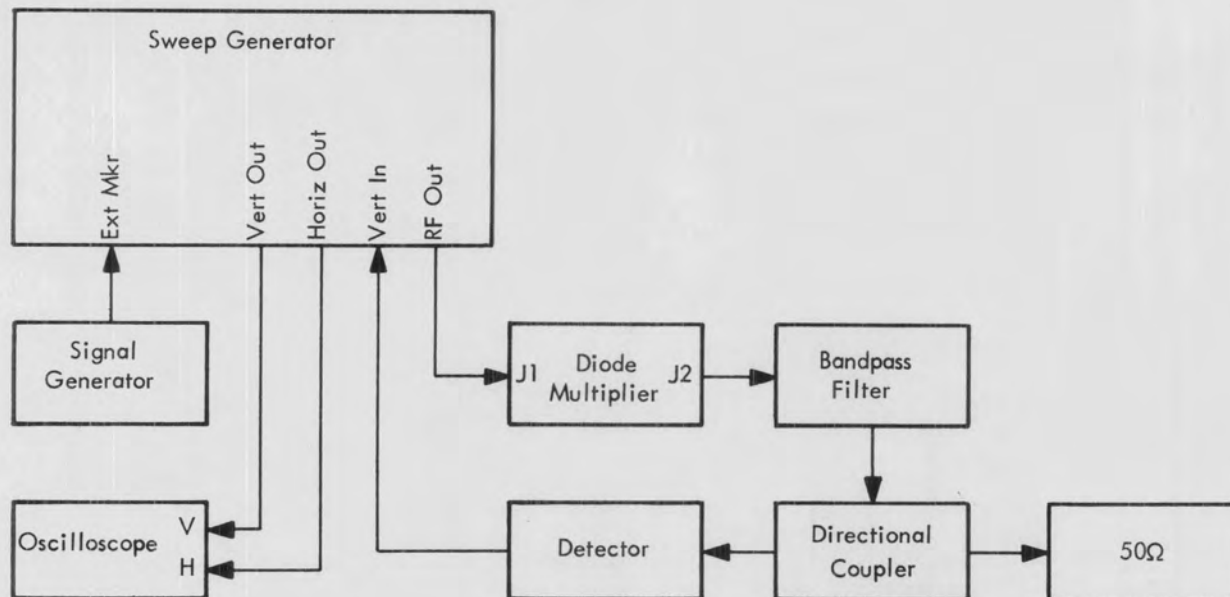

Figure 5-14. Bandwidth Adjustment, Diode Multiplier
- b. Connect test equipment as shown in figure 5-14. Set controls as follows: